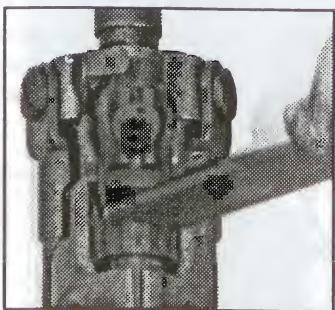
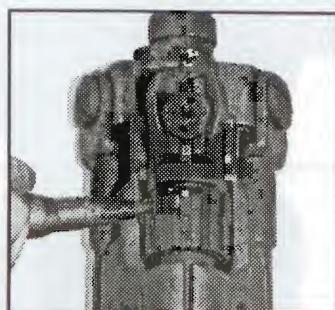

Fig. 8
Fig. 9
N.B. If the special spanner (fig 8) is not available, adjustment can be made with the nose of a cartridge (fig 9), or even by hand.